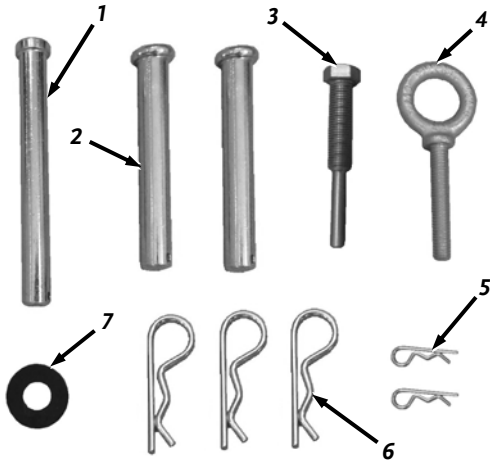

Figure 3
- Hardware (see figure 3)
Compare the contents of the Parts Boxes and Hardware Packages with the Parts Supplied lists and Figures 3 thru 8 below. If there are any questions contact us at www.DRpower.com or call 1-800-DR-OWNER (376-9637).
Product Package Hardware (Figure 3):